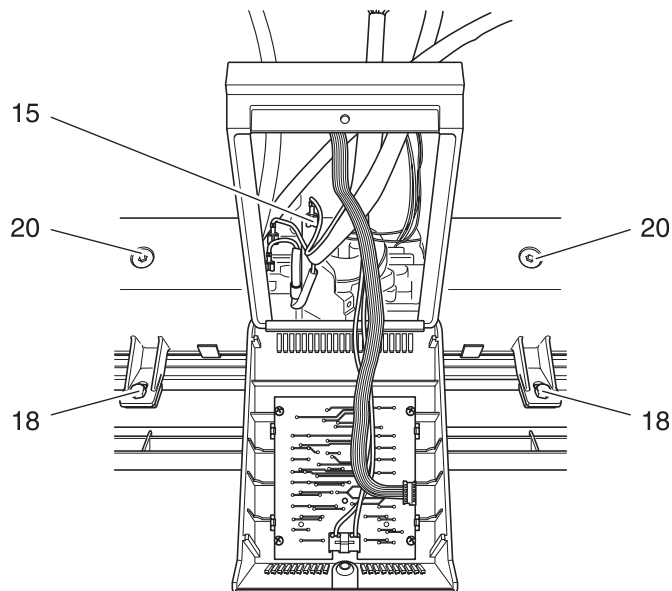

Fig. 7e
- Tilt control panel to the front (fig. 7e).
- Remove screws 18 und supporting board (fig. 7e).
- Remove screws 20 and take off the heating shoe stand (fig. 7e).